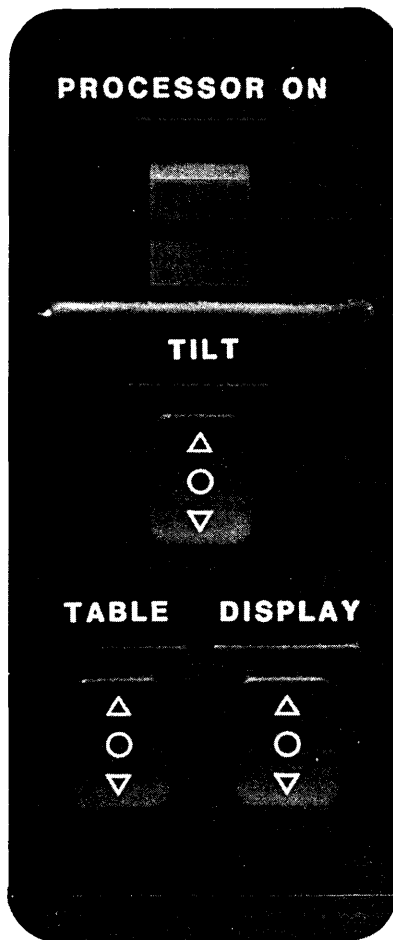

Figure 3-3. Movement Control Panel
6. Press DISPLAY switch (figure 3-3) on movement control panel to raise display assembly to maximum height.